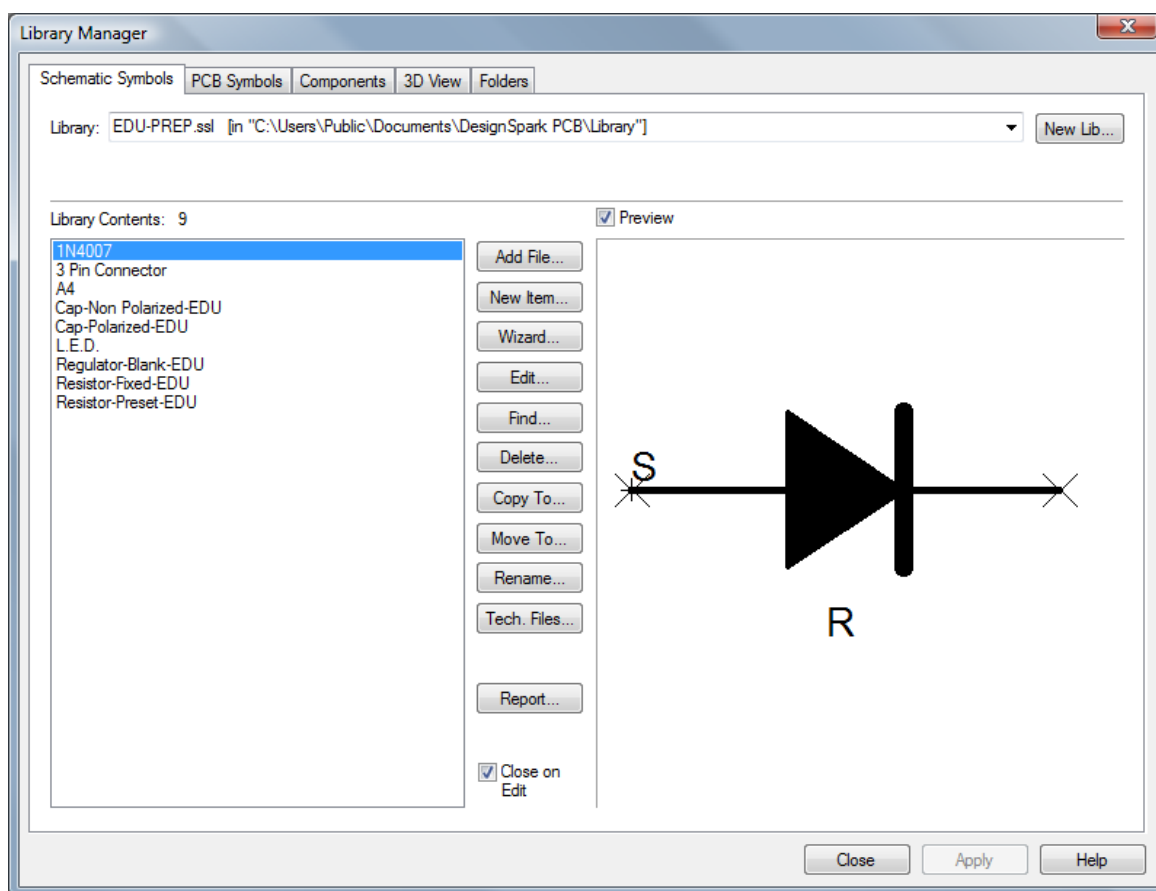

Figure 6-21: Library Creation – Library Manager – New Item
3. Select the “New Item” button (Figure 6-21) to open the symbol editor.